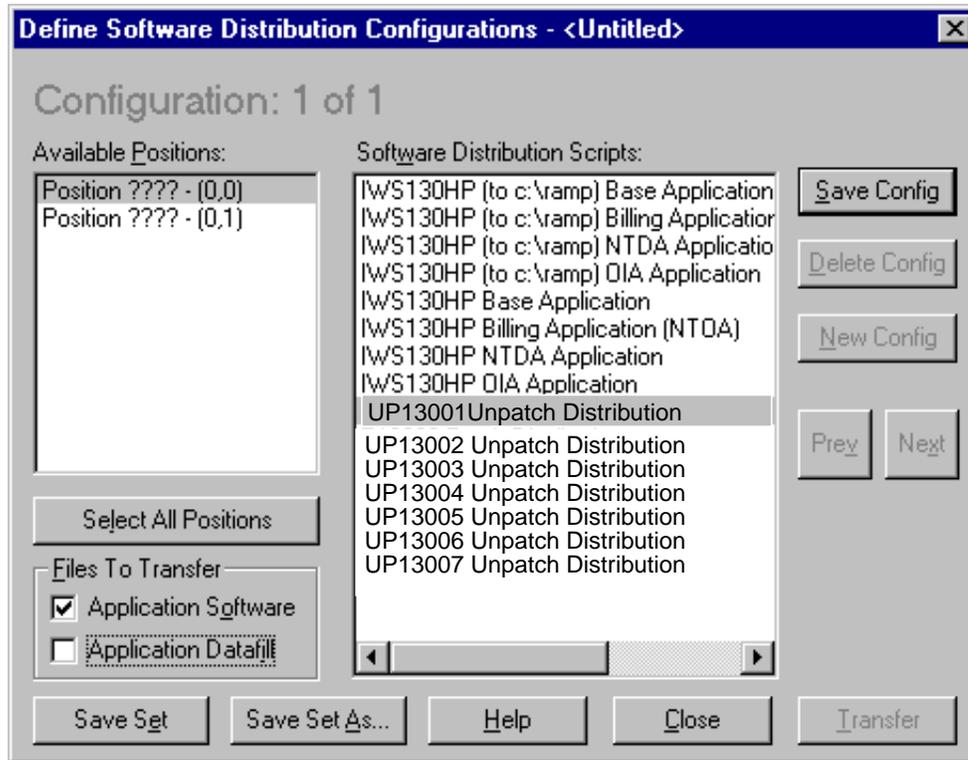

FIGURE 65. Example Software Distribution Dialog Box with Patching Files
- 3. Press Alt+N to select New. This opens the Define Software Distribution Configurations dialog box, shown in Figure 65. In this window, you will define a configuration set to remove the patches from the appropriate positions.**